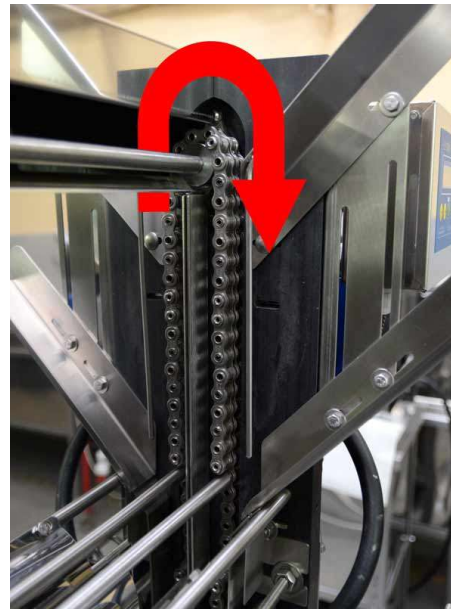

Fig.1
- set the main switch to position "1" Fig 1